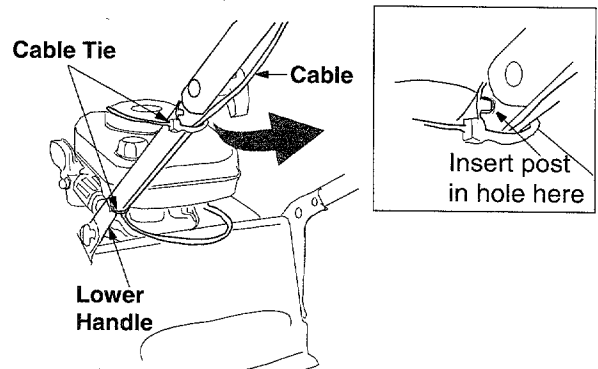

Figure 4
- Attach control cable to the lower handle with the two cable ties provided on the lower handle. Place posts on cable ties into the holes on the lower handle as shown below. Pull the cable ties tight and cut off extra. See Figure 4.